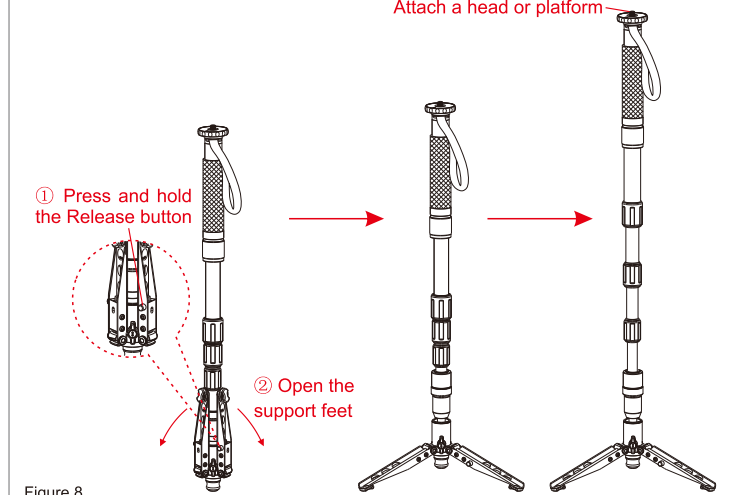

Figure 8
3. Photo/Video Function (Figure 8)